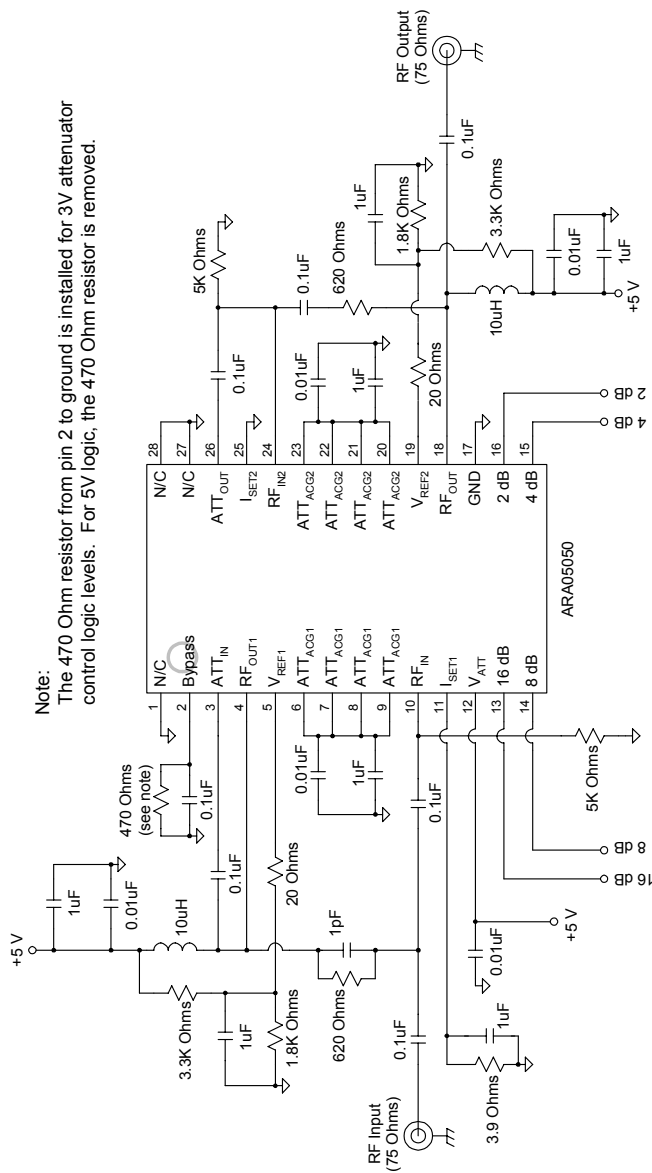

Figure 4: Test Circuit
(1) Specification applies when 470 Ohm resistor is connected from pin 2 to ground (see test circuit in Figure 4).